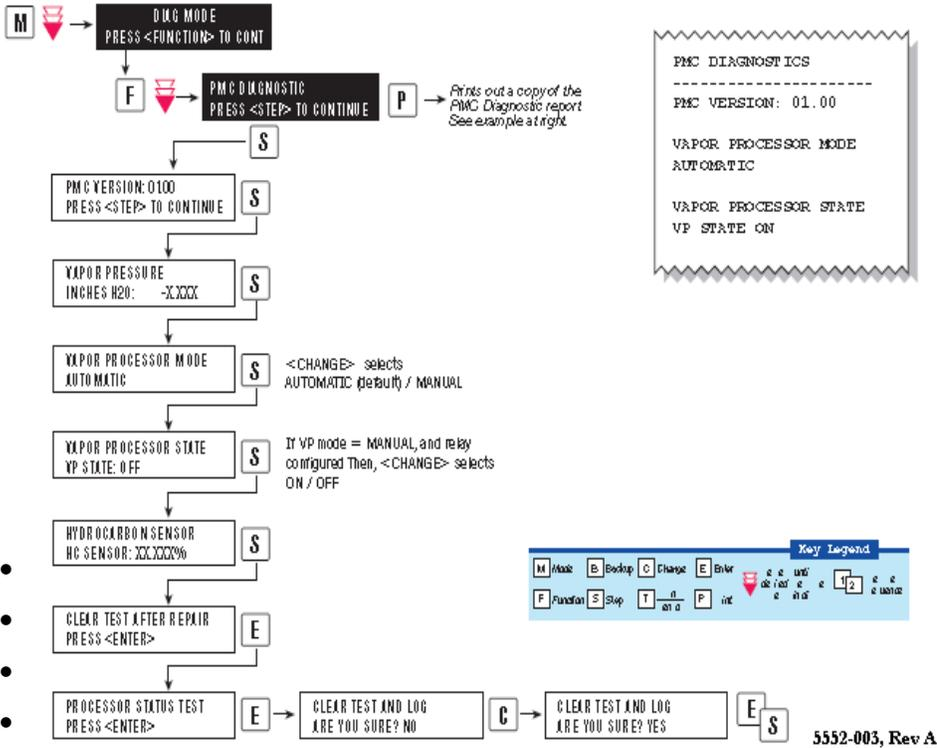
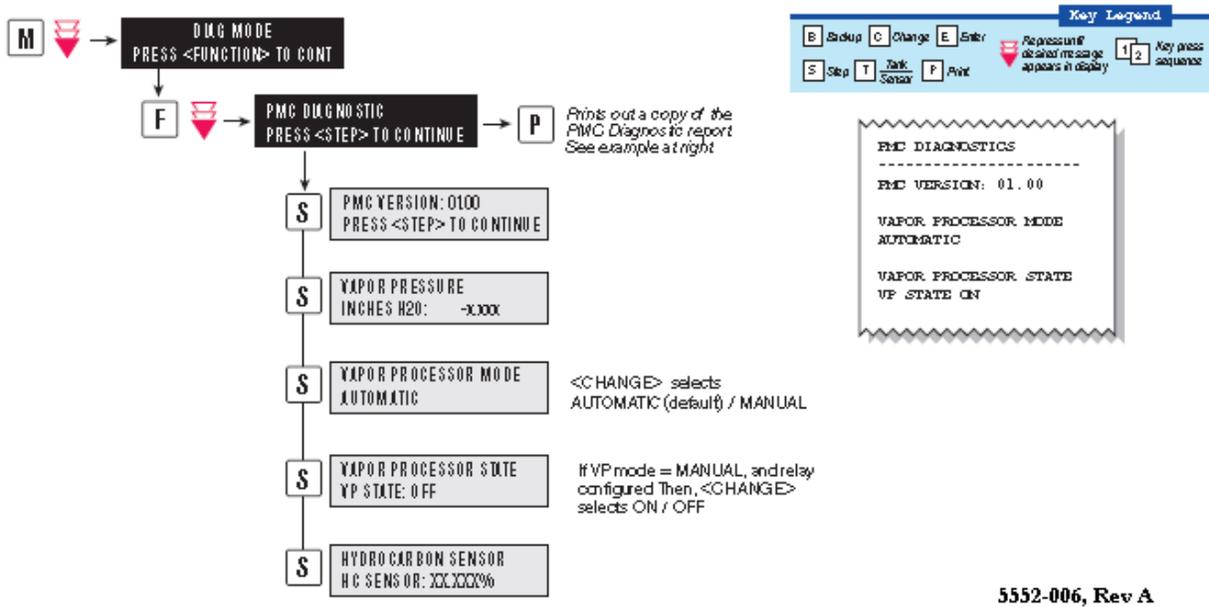

Figure 12: PMC Diagnostic Menu with PMC Software
Figure 13: PMC Diagnostic with ISD Software
- Follow the steps at the TLS console to put the TLS-350 in the Manual “OFF” Mode, as shown in Figure 12 for the PMC Diagnostic Menu and Figure 13 for the ISD Diagnostic Menu.
- Put the TLS-350 in the Manual OFF mode as shown in the Diagnostic Menus (See Figure 12 or Figure 13).
- Put the *Processor* in the manual ON Mode at the TLS as shown in the diagnostic menu in Figure 12 or Figure 13.